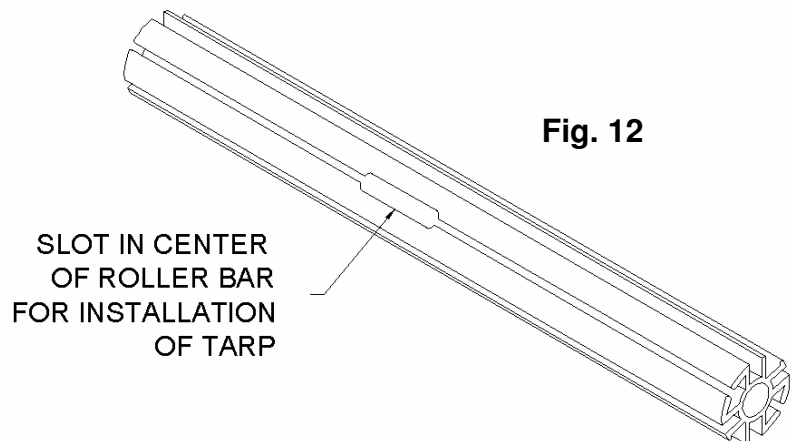

Fig. 12
11. Insert the other end of the tarp into center slot on the roller bar (see fig. 12).